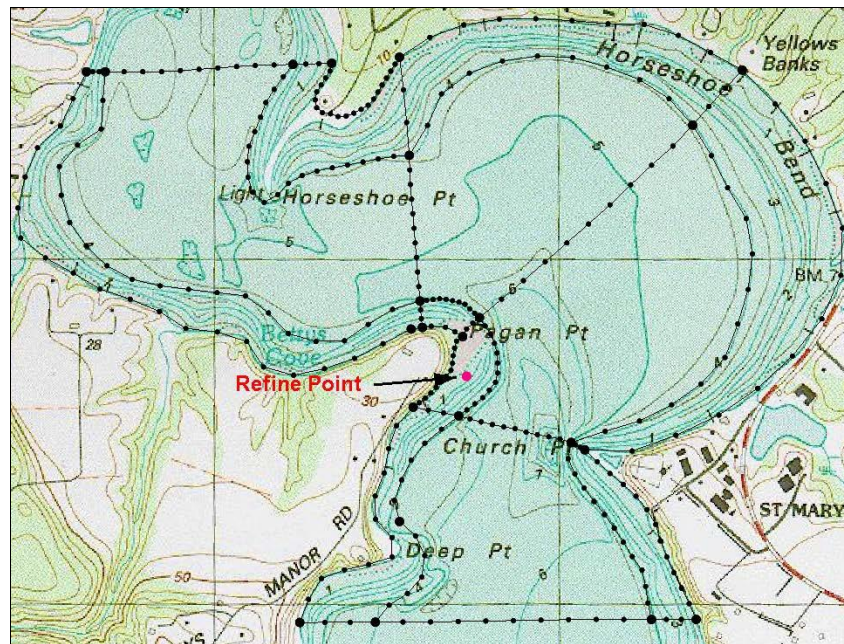

Figure 12 The location of the refine point
2. Double-click on the point inside the left polygon, labeled in Figure 12. This will bring up the *Refine Attributes* dialog.
5. Accept the default for other options and click the **OK** button to accept the refine point. Depending on the display setting, the refine point will be distinguished with a different color than nodes, as shown in Figure 12.